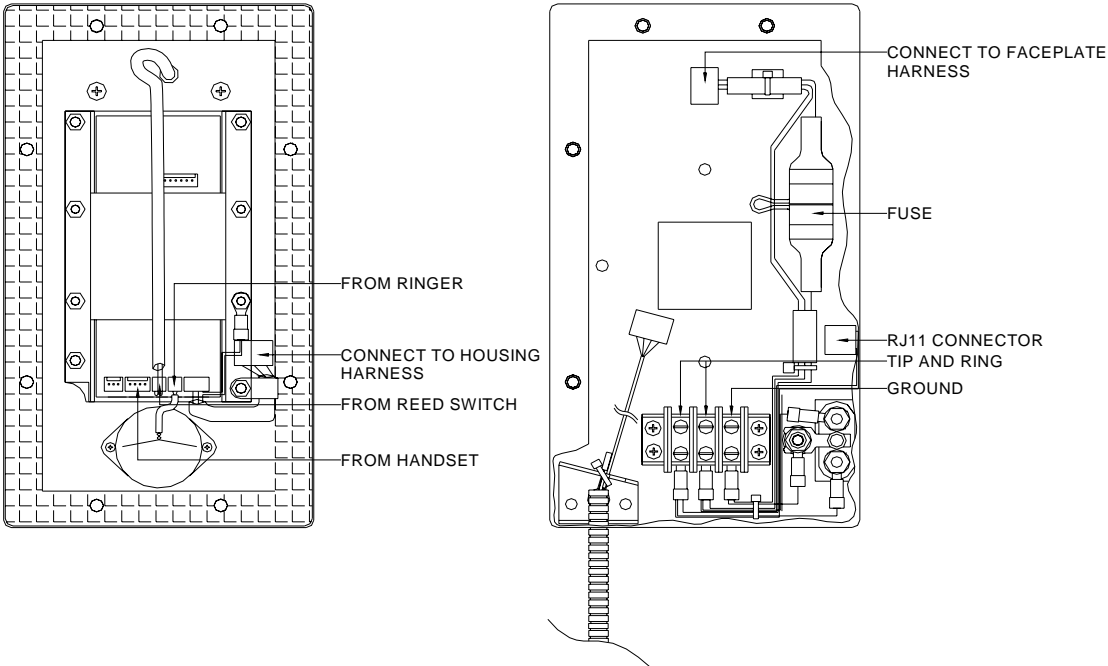

Figure 4 - Electrical Connections
**See:** Figure 4 - Electrical Connections